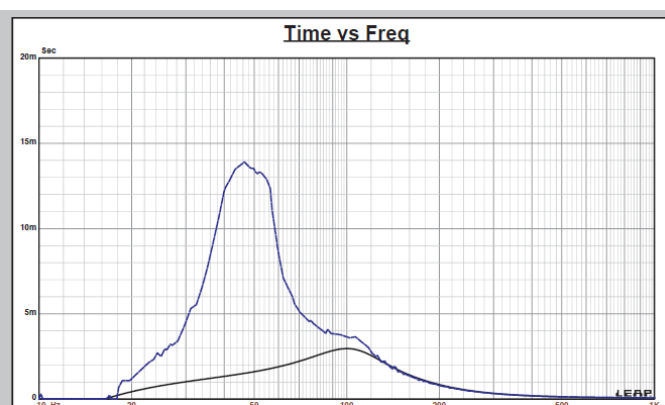
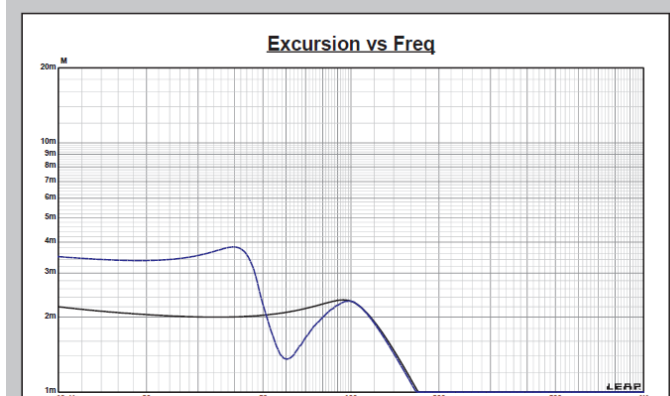

Figure 20: Group delay curves for the 2.83-V curves in Figure 19
Figure 21: Cone excursion curves for the 4.2-V curves in Figure 19
**Figure 19** shows the 5F/8422T01's results in the two box simulations at 2.83 V and at a voltage level sufficiently high enough to increase cone excursion to 2.3 mm ( $X_{MAX} + 15\%$ ). This produced a F3 frequency of 93 Hz with a box/driver  $Q_{TC}$  of 0.87 for the 60-in3 sealed enclosure and -3 dB = 74 Hz for the 112-in3 vented simulation. Increasing the voltage input to the simulations until the maximum linear cone excursion was reached resulted in 85 dB at 4.2 V for the sealed enclosure simulation and 86.5 dB with the same 4.2-V input level for the vented enclosure. **Figure 20** and **Figure 21** show the 2.83-V group delay curves and the 4.2-V excursion curves, respectively.